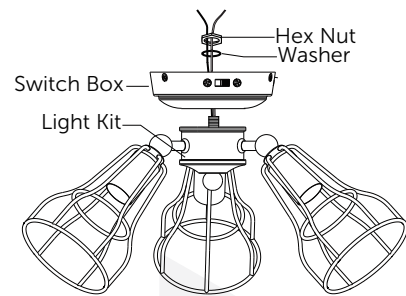

Fig. 13
13. Attach the switch box to light kit and secure them with a washer and a hex nut (Fig. 13).